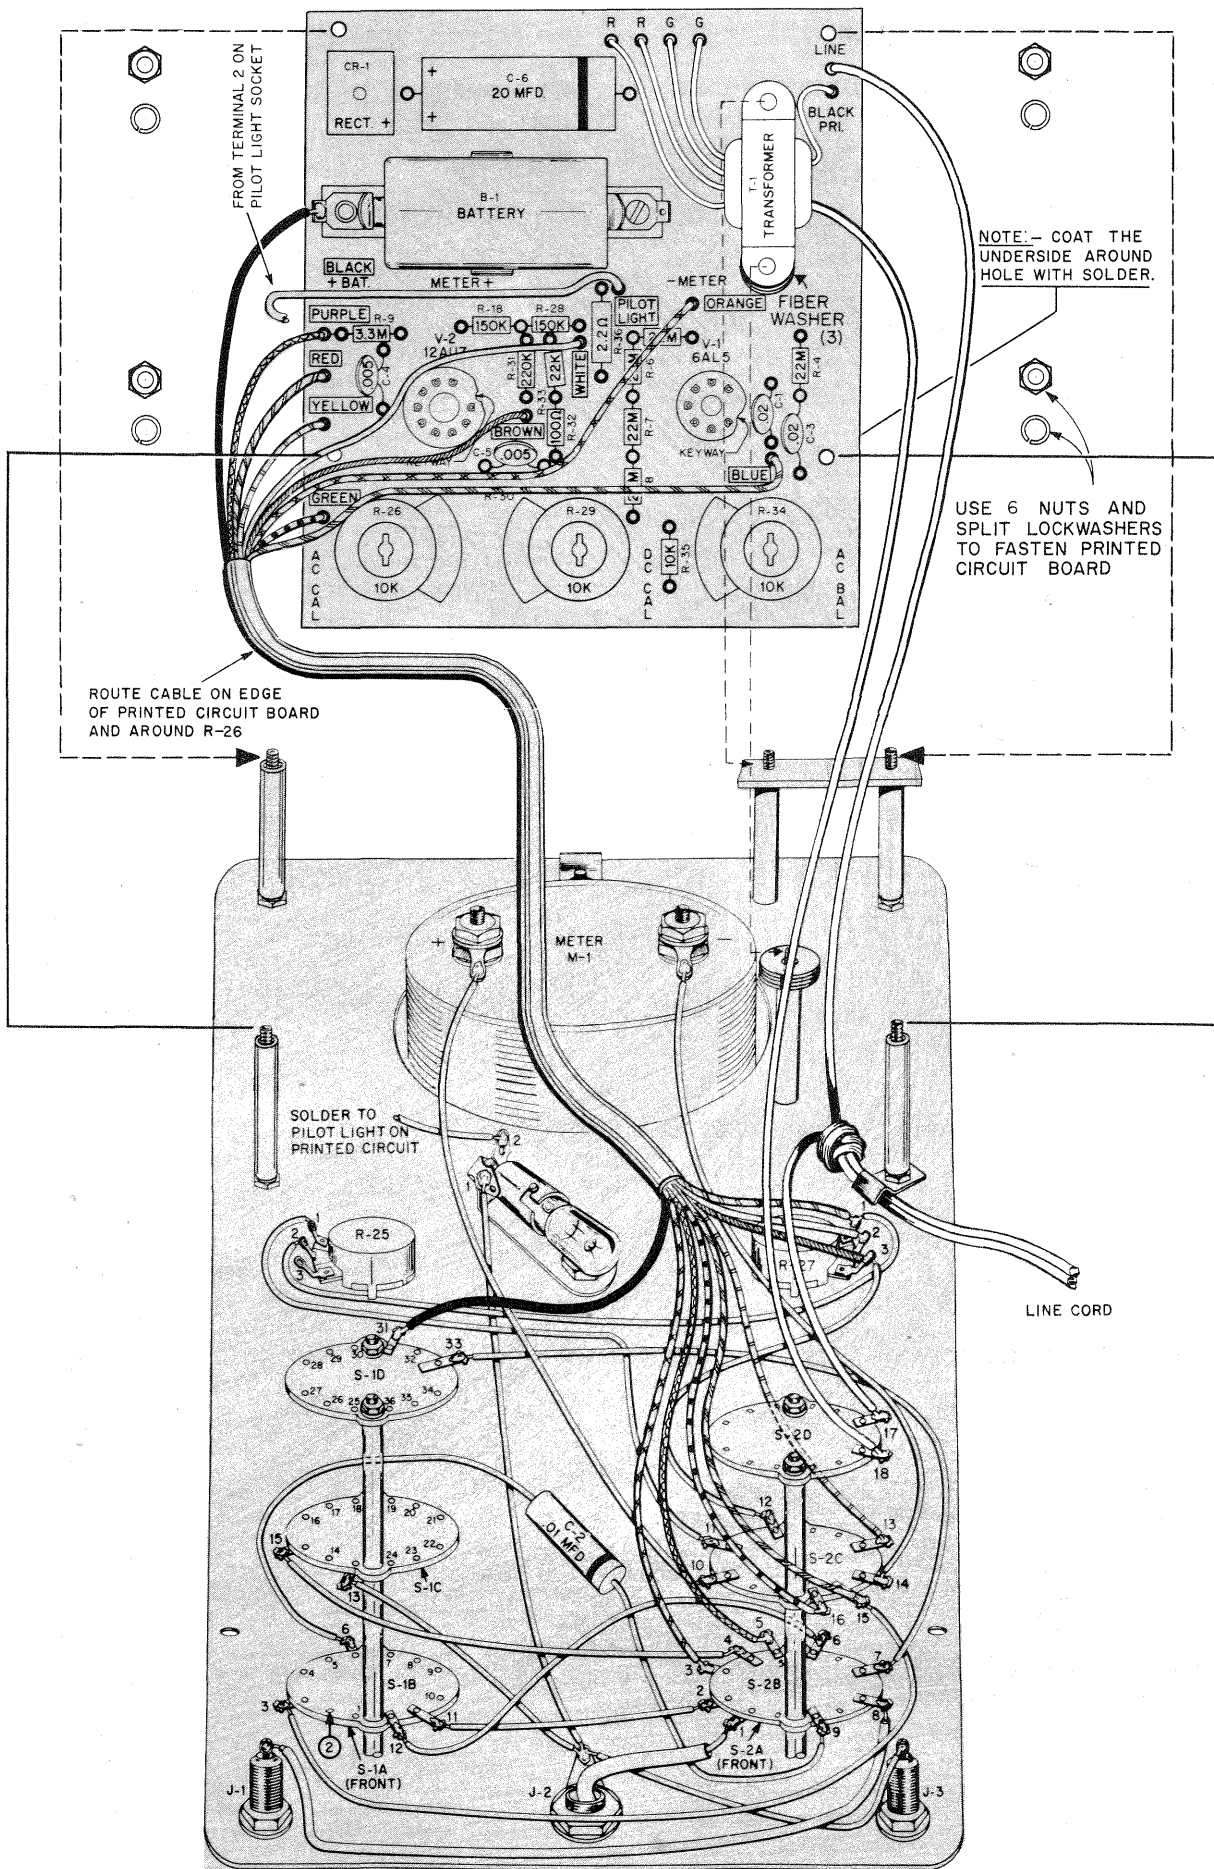

FIGURE 14. HOW TO MOUNT THE PRINTED CIRCUIT BOARD
### SEE FIGURE 14
- (✓) The printed circuit board will be mounted on six mounting screws. First place a large fiber washer on the single screw in the corner of the panel (upper left corner in Figure 14). Then mount the board on the six screws. Place another large fiber washer on top of the board, over the same corner screw. Secure the board with a split washer and nut on each of the four screws, as shown in Figure 14.